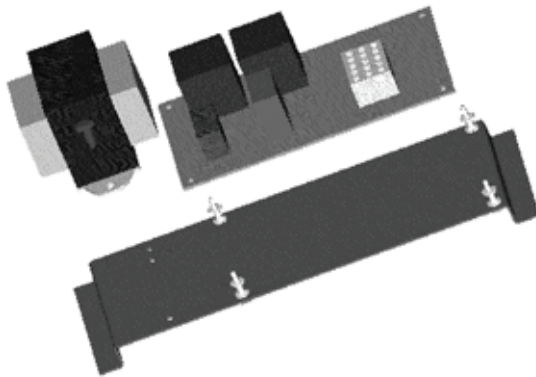

Fig 1, Relay Board Assembly
- If the oven being converted was built before 3/14/03 the relay board and transformer will need to be assembled on the bracket, 1916801, as shown in below in Fig 1. Once assembled, attach the assembly to the oven partition by sliding it behind the relay bracket slide holding the ignition bracket on and attach the second relay bracket slide to retain the top of the bracket.
- If the oven being converted was built before 3/14/03 the relay board and transformer will need to be assembled on the bracket, 1916801, as shown in above in Fig 1.